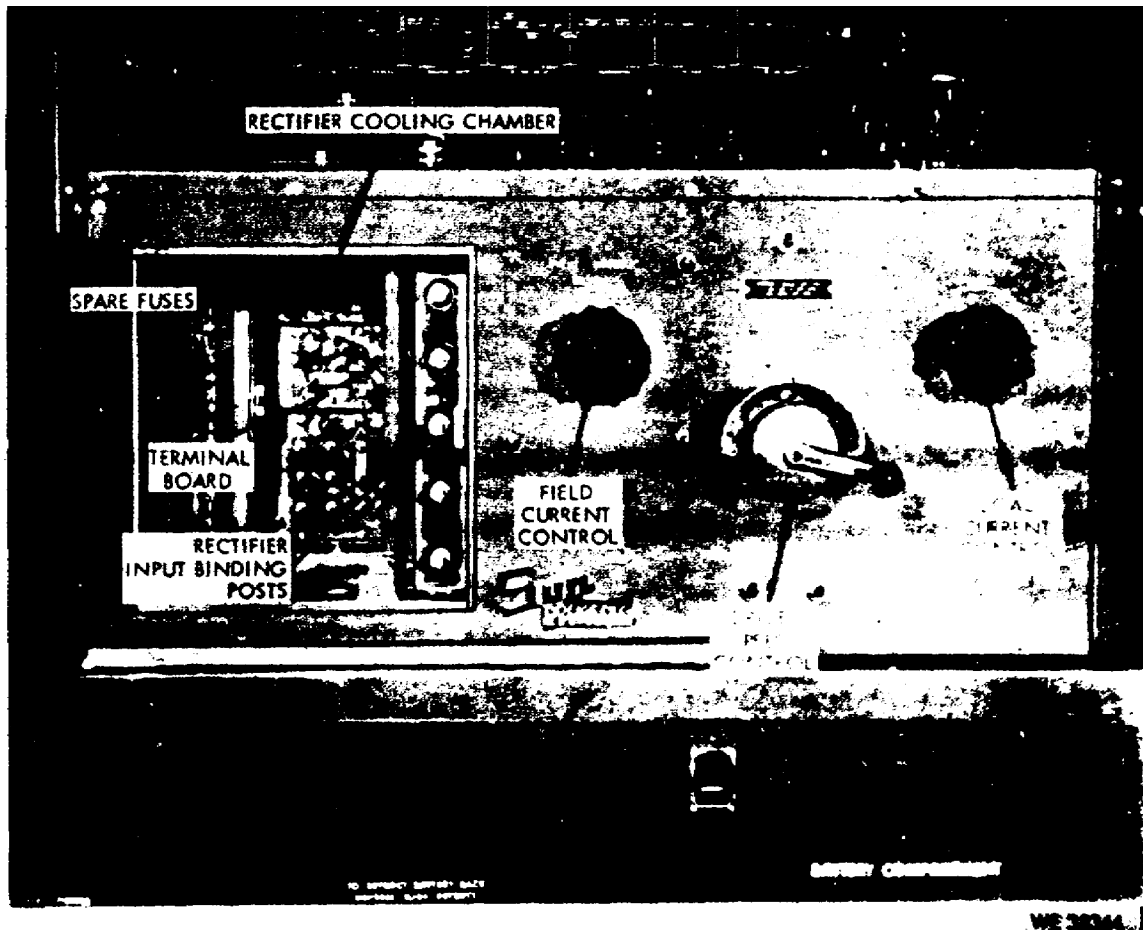

Figure 8. Rectifier cooling chamber and front control panel.
a. Figure 8 gives a good view of the rectifier cooling chamber and shows the front panel controls. The field current control is in the OFF position when rotated fully counterclockwise. When rotated clockwise this rheostat varies the field current through units under test.